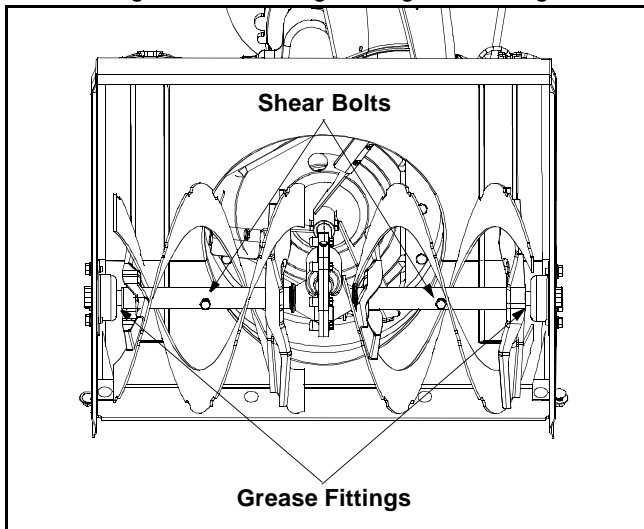

Figure 14
- Once a season, remove the shear bolts and oil or spray lubricant inside the shear bolt holes while rotating the augers by hand to lubricate the shaft. Also, grease fittings are located on both bearing housings. Lube with a grease gun. See Figure 14.